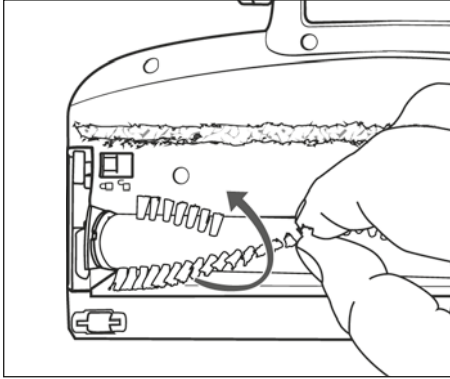

Fig. 25
- 3) Pull the rotary brush 21 out of the floor brush 22 by the bristles. Turn the rotary brush 21 slightly to make it easier to remove (see Fig. 25).